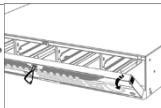

Figure 2-5 Open
- Step 2 Unlock the front panel with the attached key, and press the buttons on both sides of the front panel to open it, Fig. 2-5.